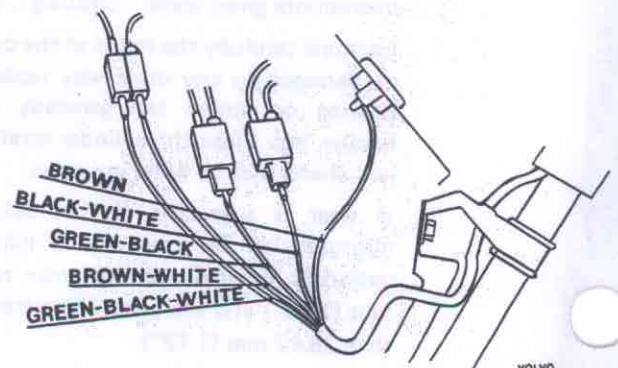

Fig. 52-22. Connecting the cable, flasher unit
5. Connect the cables for the flasher unit as shown in Fig. 52-22.